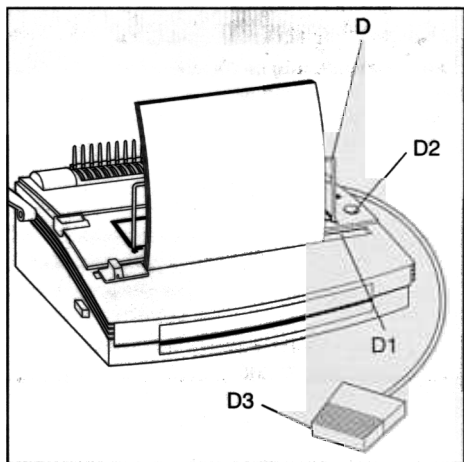

Figure 2
D. PUNCHING PAPER (see figure 2)
1. Lift the Wire Paper Support (D) into place (optional).